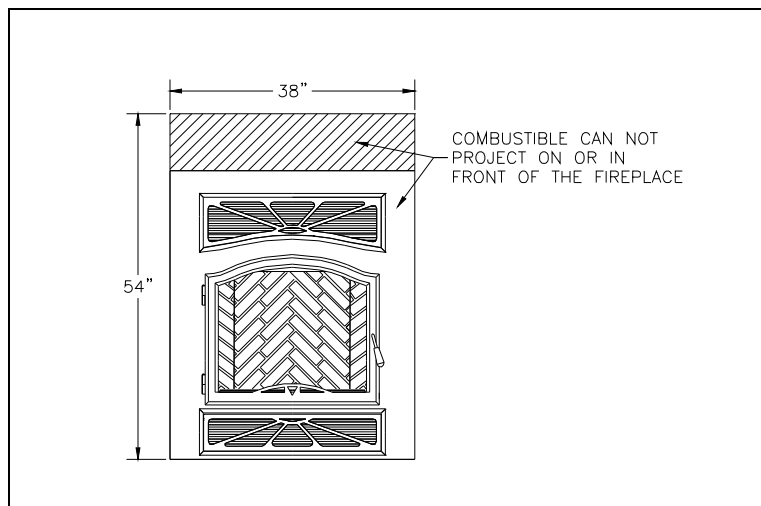

Figure 15
1. Combustible wall (such as Gyproc) must be installed flush with the fireplace. It may not project in front of and on the fireplace (i.e. the steel façade of the fireplace) (figure 15).
2. Decorative frame made of combustible material cannot project in front of and on the fireplace steel front, in the space delimited by the width of the unit (38") and a height of 54" from the base of the appliance. (Figure 15)